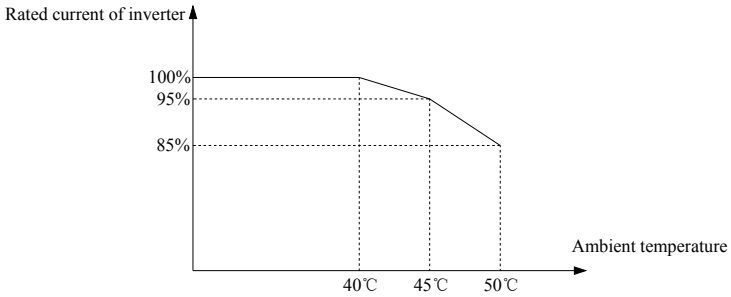

Fig.2-7 Ambient temperature derating
(2) Temperature derating: The temperature is between 40°C and 45°C. For every 1°C increase, The rated output current is reduced by 1%. The temperature is between 45°C and 50°C, And the rated output current is reduced by 2% for every 1°C increase. As shown in Fig.2-7.